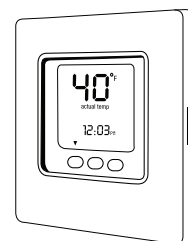

Fig. 4 – Lowest Temperature Setting
1. Set your room thermostat to the lowest temperature setting (see Fig. 4).